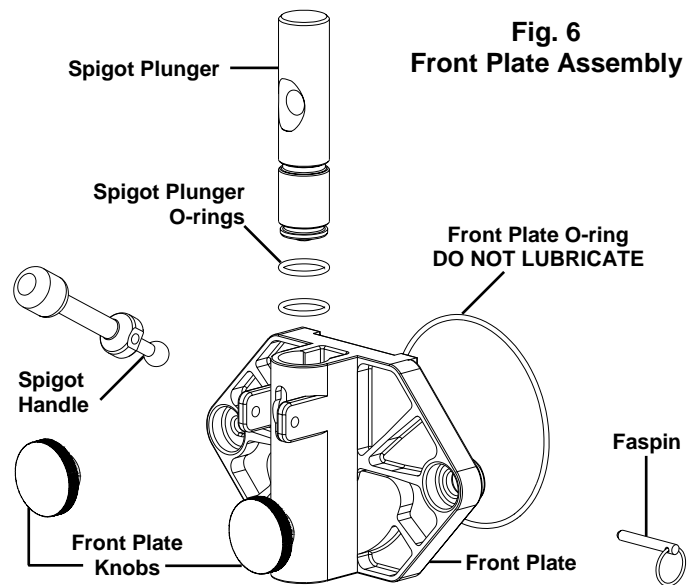

Fig. 7
- Remove the o-rings from the spigot plunger by grasping the part with one hand and with a dry cloth in the other hand, squeeze the o-ring upward. When a loop is formed, grasp the o-ring with the other hand and roll it out of its groove and off the spigot plunger (Fig. 7).